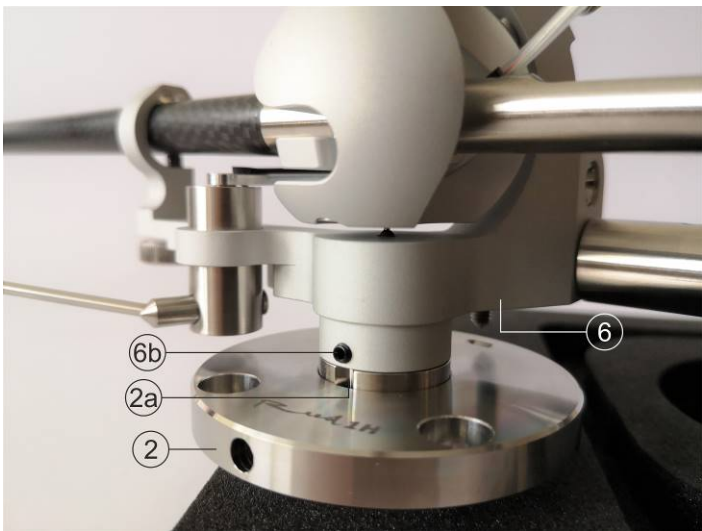

Figure 8
- k) Set tonearm body [6] on the base [2]. Fixing screw [6b] must match with the groove [2a] in tonearm base. Fix the screw [6b] with hex (allen) key from accessories (Figure 8).